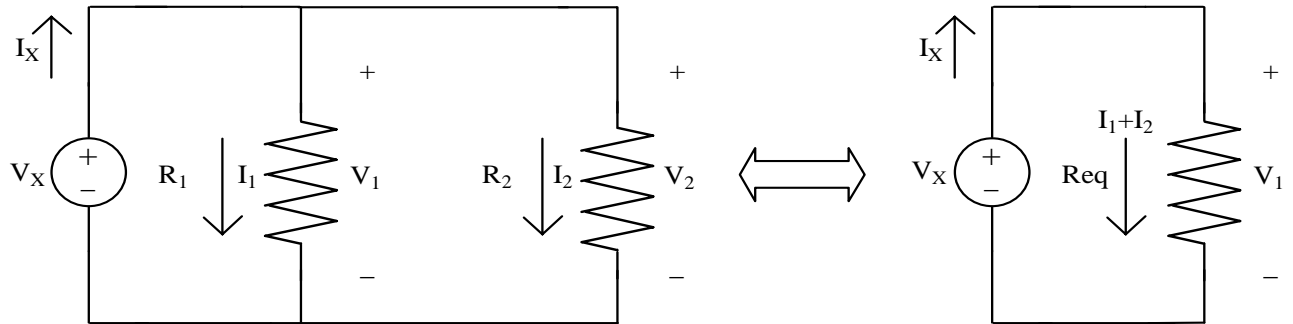

Figure 8
g. Resistors connected in parallel (see Figure8):
The HP E3631A triple output DC power supply contains three variable voltage sources, with maximum voltage values of +6V, +25V, and -25V. The 6V supply operates independently of the +25V and -25V supplies, which share a common terminal. (Look at figure 8 and try to spot the buttons for the three voltage settings). To a certain limit, all three voltage sources can be connected independent of earth ground, which is actually connected through the building wiring to the earth.